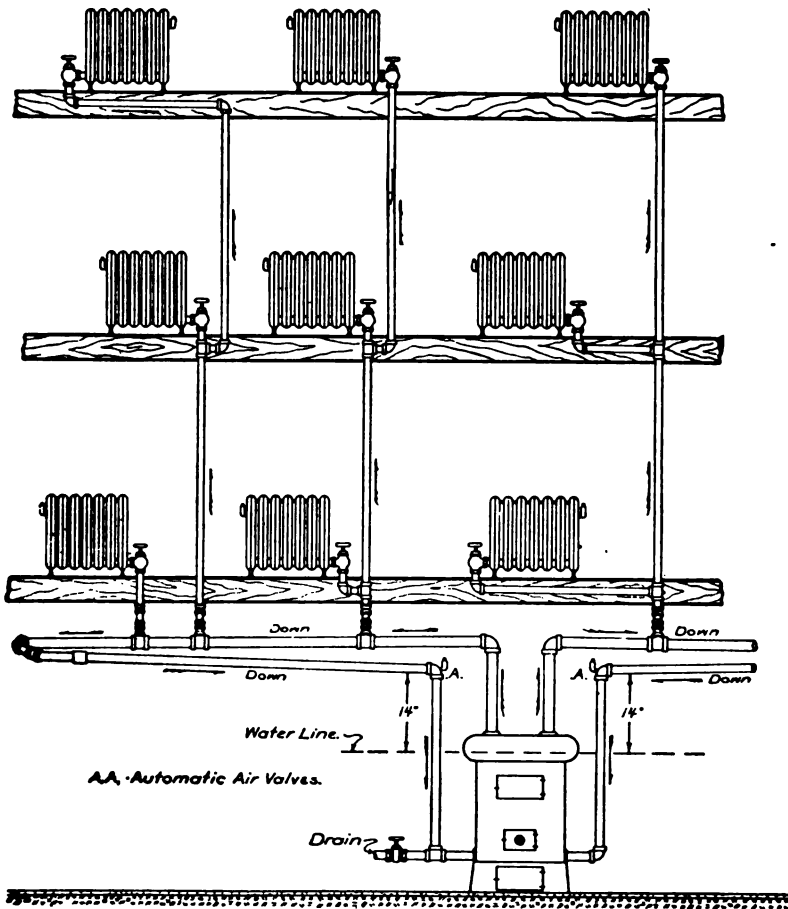

Fig. 20.—The One-Pipe Method of Steam Heating.
A. The one-pipe method is that which has only a single pipe connection to each radiator, the branch or feed pipe being arranged to act as both flow and return, and a single main pipe conveys the steam to the radiator and returns the condensation to the boiler. Fig. 20.